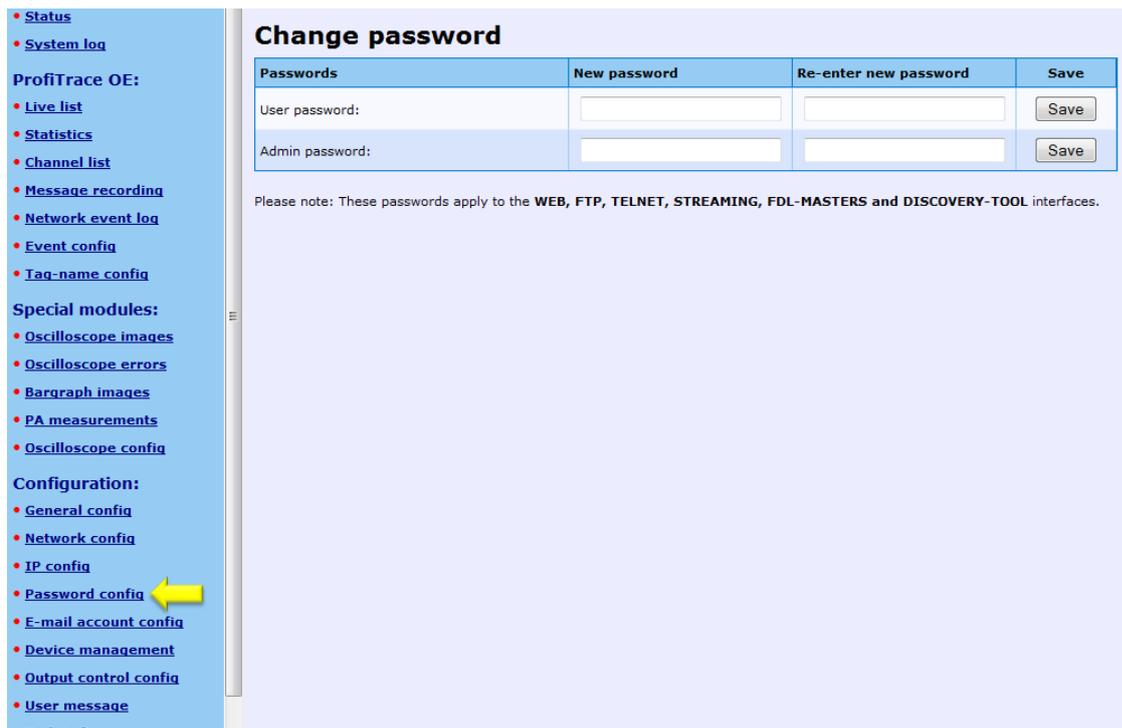

Fig. 36 - Password setup
**Fig. 36** illustrates the password setup web page.